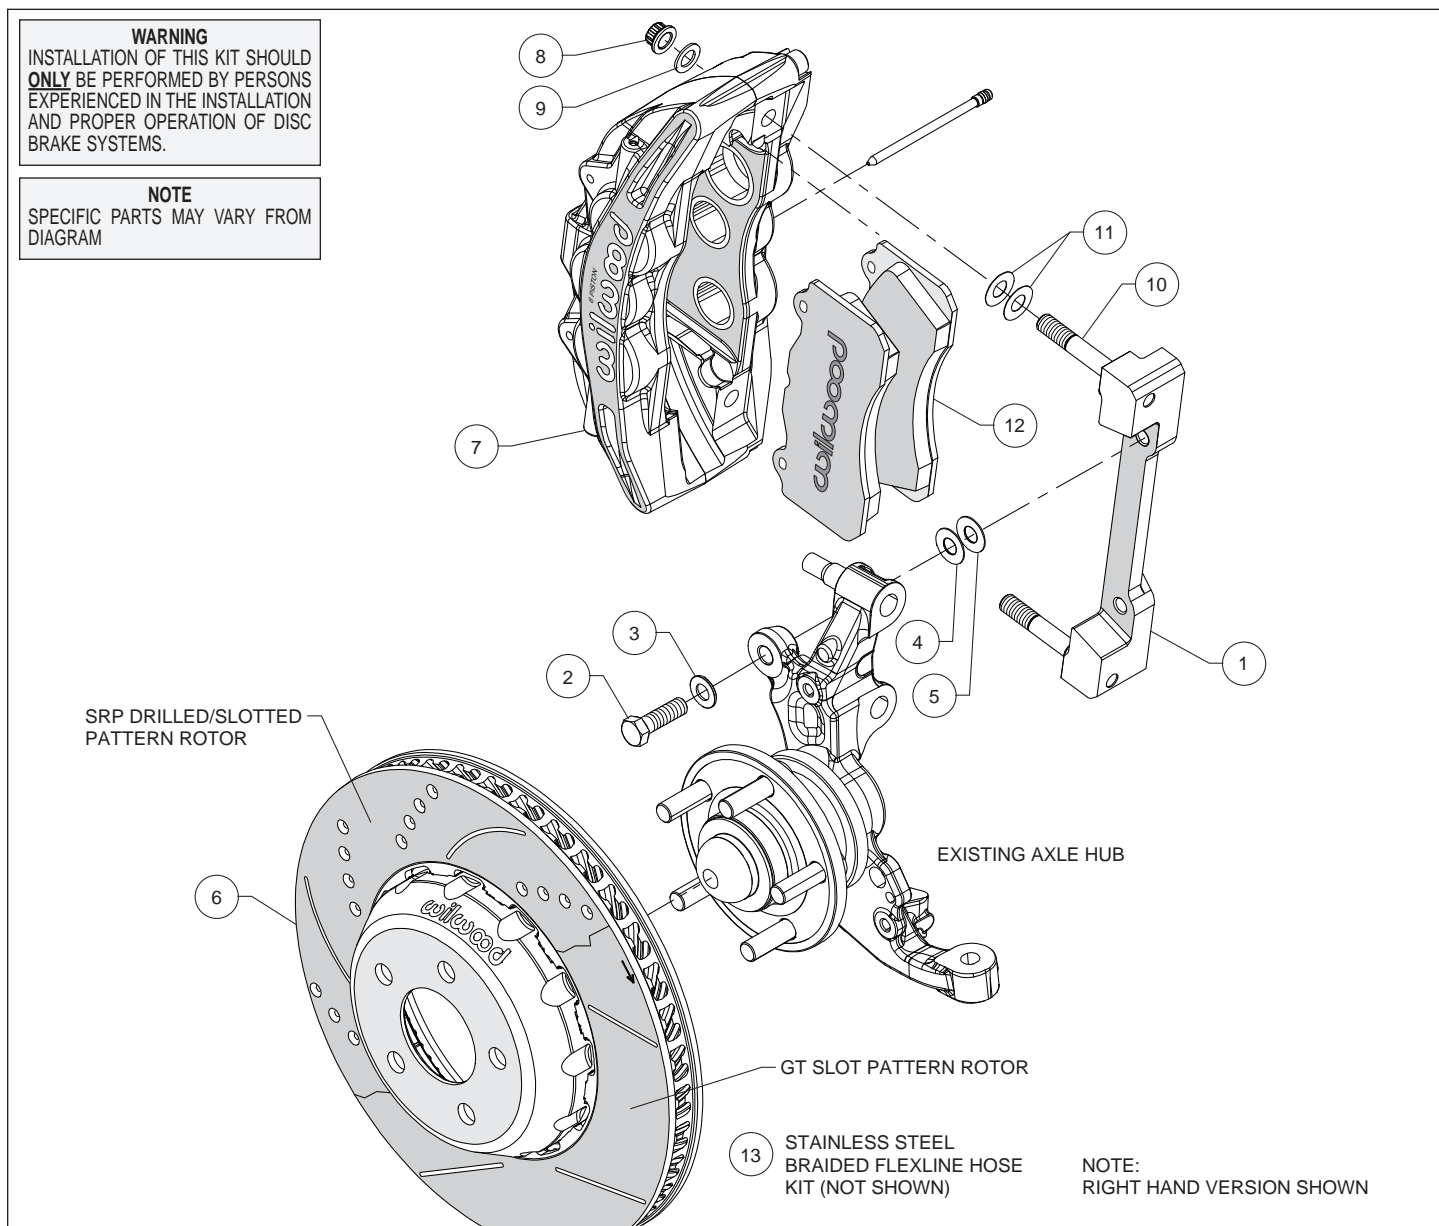

Figure 1. Typical Installation Configuration
Assembly Instructions (numbers in parenthesis refer to the parts list and Figure 1 on the preceding pages):
- The caliper mount bracket (1) should initially be installed with clean, dry threads on the mounting bolts. Orient the bracket, as shown in Figure 1 and Photo 1, and install using bolts (2) and washers (3). Initially place one .033" thick shim (4) on each bolt between the bracket and upright, Figure 1. Temporarily tighten the mounting bolts. **NOTE:** *The bracket must fit squarely against the mount bosses on the upright.* Inspect for interference from casting irregularities, machining ridges, burrs, etc. Later, after the caliper alignment has been checked, the mount bolts will be secured using red *Loctite*® 271.
- NOTE:** *This kit contains distinct right and left hand calipers that must be mounted in a specific direction, as described below.* Lubricate the caliper mounting studs (10) with lightweight oil. Initially place two .015" thick shims (11) on each stud between the caliper and the bracket, as shown in Figure 1 and Photo 3. Mount the caliper (7) onto the bracket (1) using lock nuts (8) and washers (9), Figure 1. Temporarily tighten the lock nuts. Ensure that the caliper is mounted so the largest pistons are at the rotor exit end of the caliper, in relation to the direction of the rotor. View the rotor through the top opening of the caliper. The rotor should be centered in the caliper, Photo 4. If not, adjust by adding or subtracting shims (4 and/or 5) between the bracket and the upright. Always use the same amount of shims on each of the two mounting bolts. Once the caliper alignment is correct, remove the bracket mounting bolts (2) one at a time, apply red *Loctite*® 271 to the threads, and torque to 60 ft-lbs.
- Remove the two pad retaining pins from the caliper (7) by pushing out the pins from the tapered end using a blunt instrument. Insert the brake pads (12) into the caliper from the bottom, Figure 1 and Photo 5. With the friction material facing the rotor, secure the brake pads in place with the pad retaining pins, Photo 6. Reinstall the caliper onto the caliper mounting bracket and temporarily tighten the lock nuts. Check that the top of the brake pad is flush with the outside diameter of the rotor, Photo 7. If not, adjust by adding or subtracting shims (11) between the caliper and the bracket. After the caliper pad height is set, torque the caliper lock nuts (8) to 65 ft-lb.
- NOTE:** *OEM rubber brake hoses generally cannot be adapted to Wilwood calipers. The caliper inlet fitting is a 1/8-27 NPT. Install Wilwood's stainless steel braided flexline hose kit (16), P/N 220-13912 included with this kit. Carefully route hoses to prevent contact with moving suspension, brake or wheel components. NOTE: Wilwood hose kits are designed for use in many different vehicle applications and it is the installer's responsibility to properly route and ensure adequate clearance and retention for brake hose components.*